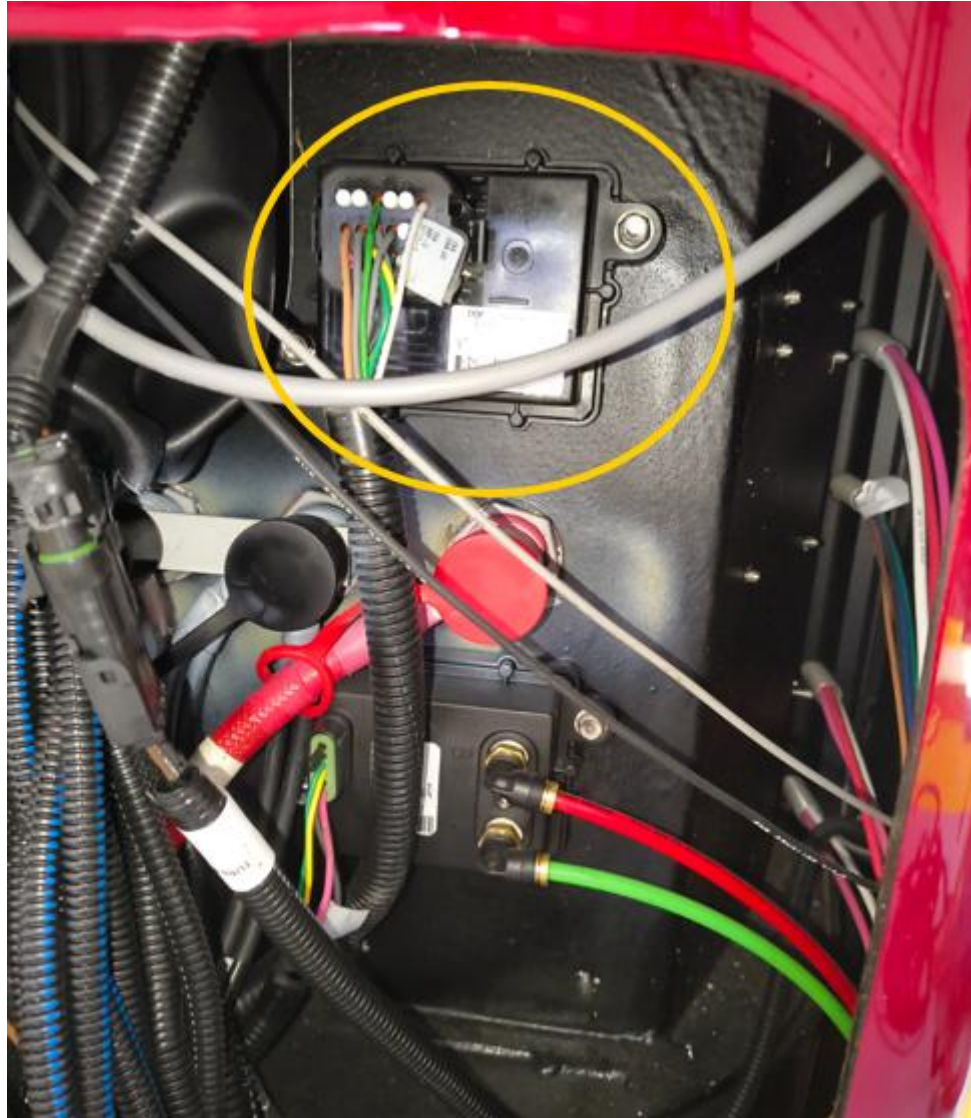

Figure 3.1
- 2) Locate the CAN I/O module behind the headlight bucket assembly. It can be properly identified as the module that does **not** have air lines connected to it. (See Figure 3.1)